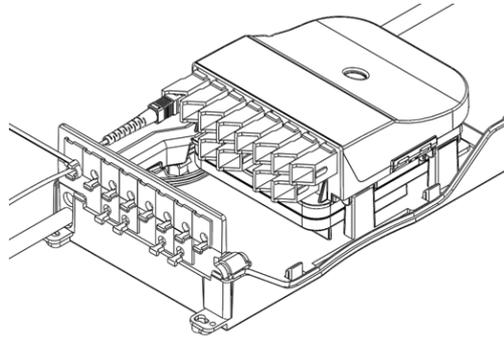

Fig. 32
4.6.7. Secure the cable to the face plate using a cable tie (Fig. 32).